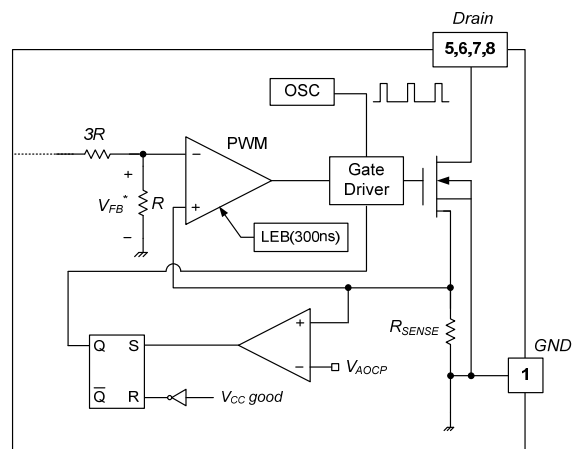

Figure 21. Abnormal Over-Current Protection
4.2 Abnormal Over-Current Protection (AOCP): When the secondary rectifier diodes or the transformer pins are shorted, a steep current with extremely high di/dt can flow through the SenseFET during the minimum turn-on time. Even though the FSD156MRBN has overload protection, it is not enough to protect the FSD156MRBN in that abnormal case; due to the severe current stress imposed on the SenseFET until OLP is triggered. The internal AOCP circuit is shown in Figure 21. When the gate turn-on signal is applied to the power SenseFET, the AOCP block is enabled and monitors the current through the sensing resistor. The voltage across the resistor is compared with a preset AOCP level. If the sensing resistor voltage is greater than the AOCP level, the set signal is applied to the S-R latch, resulting in the shutdown of the SMPS.